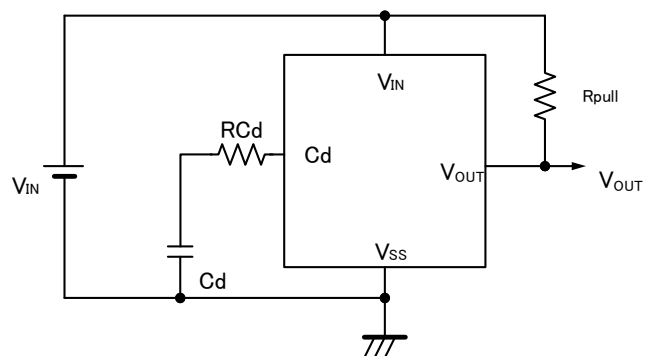

Figure 4: Circuit example with a resistor connected to the C_d pin
- To place a resistance (RC_d) of 500 Ω to 1k Ω between the C_d and C_d pin. (See Figure 4)